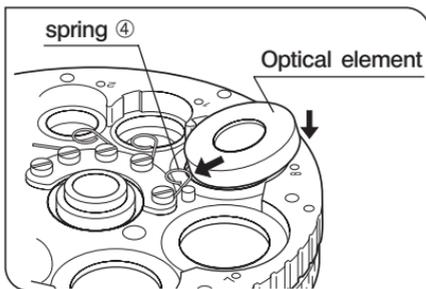

Fig. 8
2. Rotate the turret to engage the aperture position you want to mount the phase contrast or darkfield ring. Then, while pushing in the optical element centering screw ③, loosen it by turning it counterclockwise.
4. Insert the phase contrast ring or darkfield ring in the aperture of the turret as far as it will go. Slightly depress the spring ④ provided inside the turret with the side of ring while inserting. (Fig. 8)